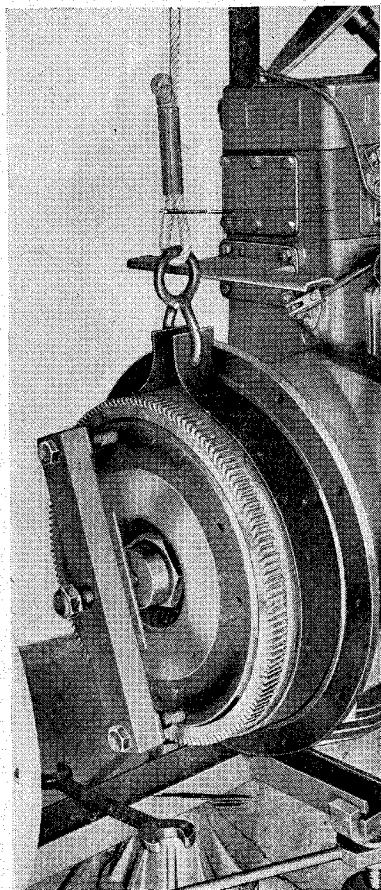

Fig. 29.
11. Using two bolts attach the puller 4442.90 to the flywheel. Place a circular pad on the crankshaft nut to provide support for the centre bolt of the puller. Ease the flywheel by tightening the puller centre bolt and move the flywheel towards the nut along the crankshaft (See Fig. 29).